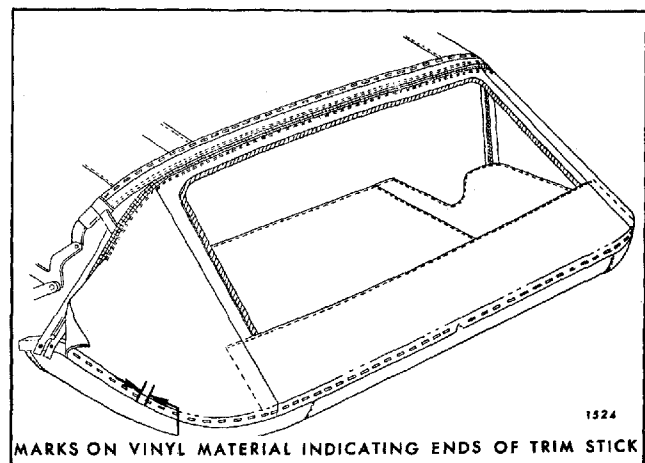

Fig. 6-51—Marking Back Curtain
14. Using chalk, or other suitable material, mark ends of rear and rear quarter trim sticks on vinyl surface of back curtain material (Fig. 6-51). Reference marks for trim sticks should be transferred to new back curtain material when step 3 of installation procedure is performed.